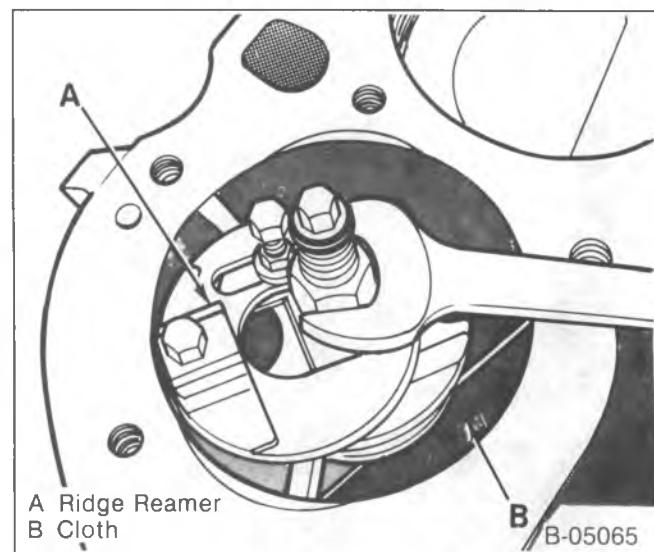

Figure 14—Removing the Cylinder Ridge
- Perform the cutting operation with a ridge reamer (figure 14).